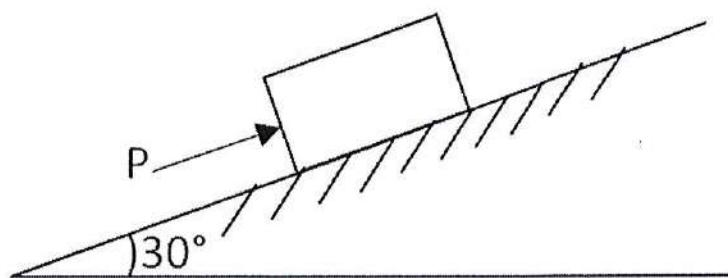

Figure 2c / Rajah 2c
- c) A force \mathbf{P} is applied on a body of 50 kg mass on a slanting plane with an angle of 30° as shown in **Figure 2c**. Determine the force \mathbf{P} when the body is about to move, when the coefficient of friction is 0.25.